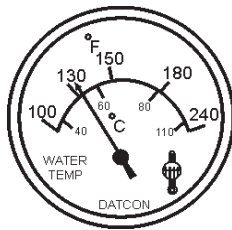

Figure 50. Coolant Temperature Gauge
13. The **coolant temperature gauge** (Figure 50) will indicate the coolant temperature. Under normal operating conditions the coolant temperature should be between 165 and 215 degrees Fahrenheit (**Green Zone**).